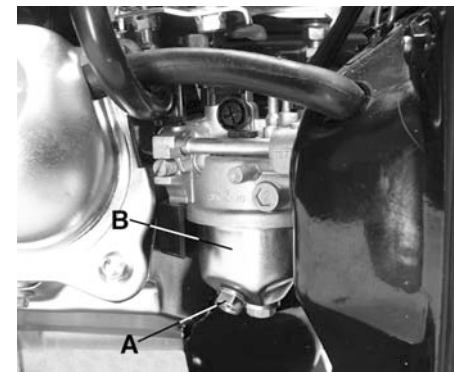

Figure 16
- 3) Turn fuel shut-off valve to the "OFF" position, remove drain hex. bolt (A) Fig.16 from the carburetor (B).